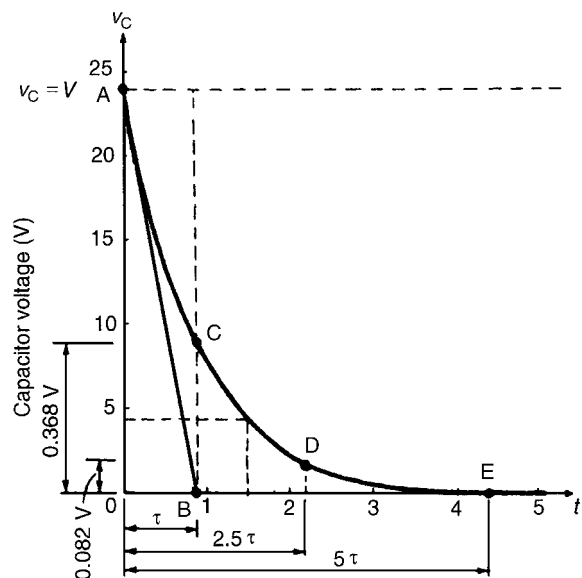

Figure 18.5
- (a) The exponential decay of capacitor voltage is from 24 V to 0 V in a time equal to five time constants, i.e. $5 \times 0.88 = 4.4$ s. With reference to Fig. 18.5, to construct the decay curve:
- (vi) the value of the transient after a time equal to two and a half time constants is 0.082 of the initial value, i.e. $0.082 \times 24 = 1.97 \text{ V}$, shown as point D in Fig. 18.5,
- (b) The voltage drop across the resistor is equal to the capacitor voltage when a capacitor is discharging through a resistor, thus the resistor voltage/time characteristic is identical to that shown in Fig. 18.5 Since $v_R = v_C$, then at 1.5 seconds after decay has started, $v_R \approx 4.4 \text{ V}$ (see (vii) above).